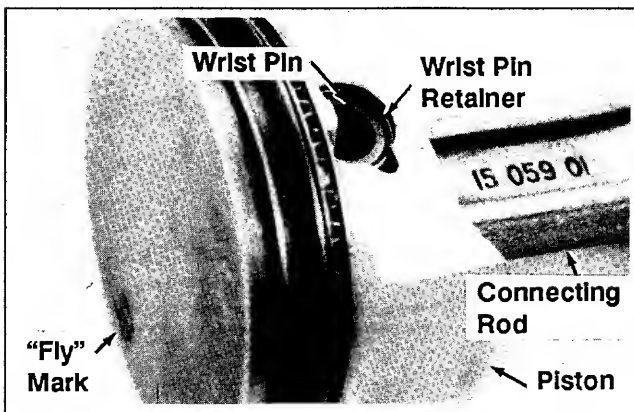

Figure 11-3. Installing Piston To Connecting Rod.
1. Assemble the piston, connecting rod, wrist pin and wrist pin retainers. See Figure 11-3.